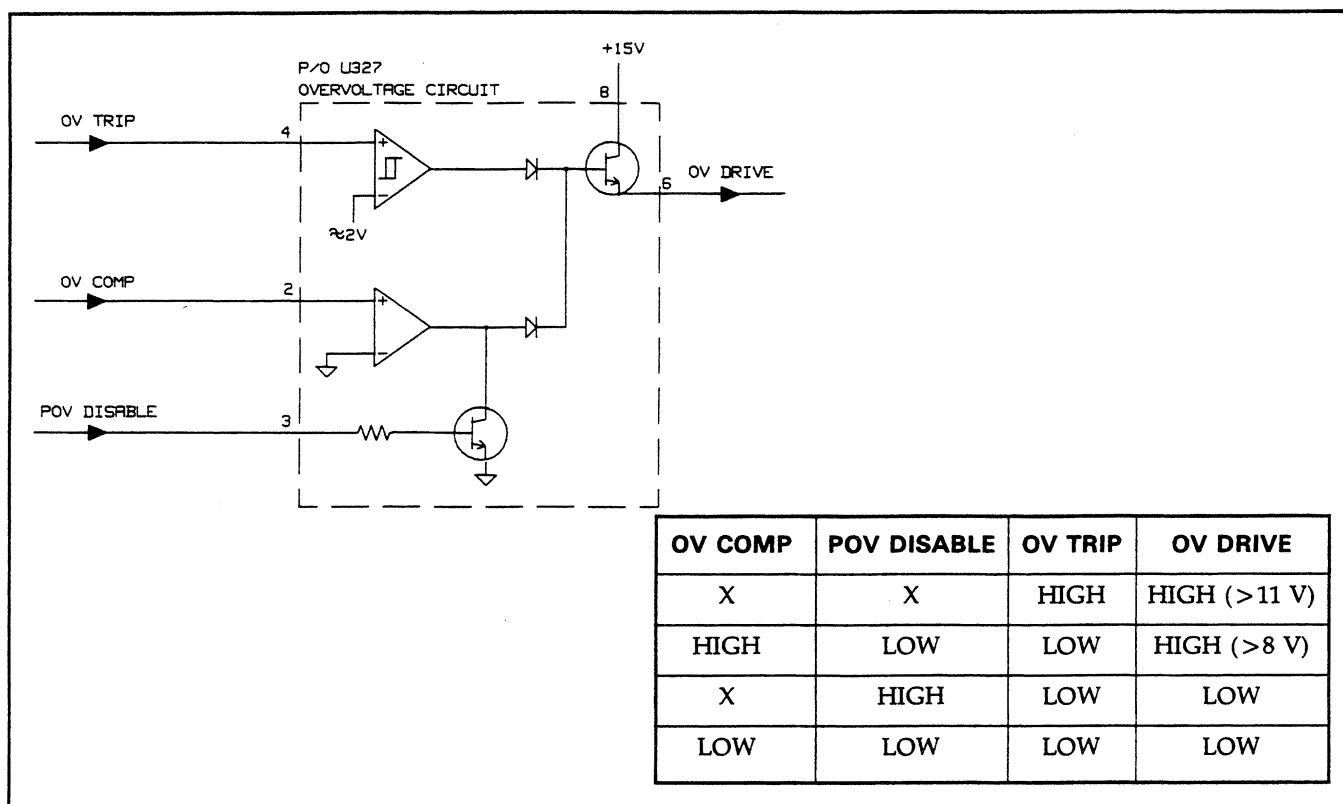
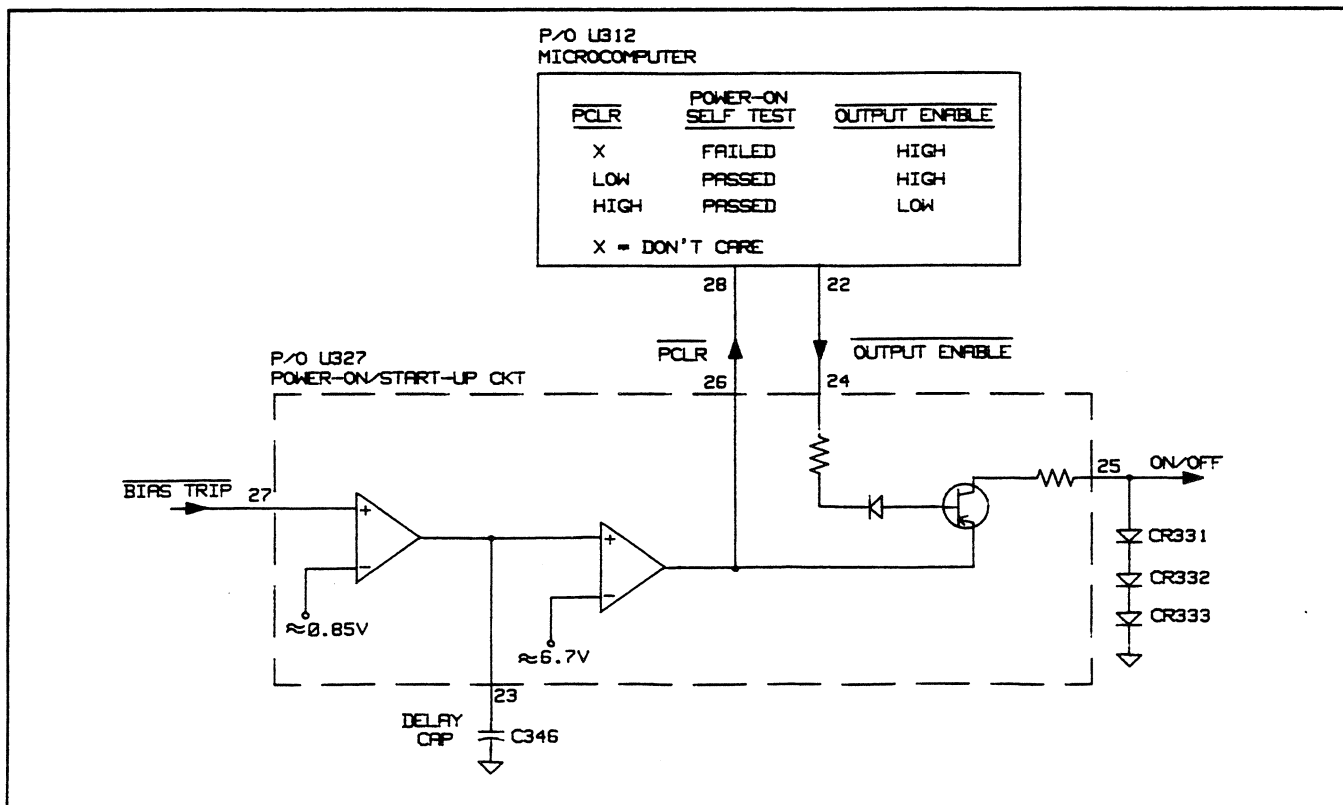

Figure 4-17. Signal Processor U327, Overvoltage Circuit, Simplified Schematic Diagram
Figure 4-18. Signal Processor U327, Power-On/Start-Up Circuit, Simplified Schematic Diagram
Proper operation of the IC can be verified by measuring the pin voltages and using Table 4-16 which lists the voltage levels and defines the low and high states. This information is used in conjunction with the pin descriptions (paragraph 4-31) and simplified schematics to troubleshoot the signal processor's overvoltage (Figure 4-17), power-on/start-up (Figure 4-18), and status monitor circuits (Figure 4-19). Additional troubleshooting information for the status monitor circuit is given in paragraph 4-32 and Figure 4-20.
**OV DRIVE (pin 6):** This output signal is a function of inputs: OV COMP, POV DISABLE, and OV TRIP. When OV DRIVE goes High, it fires the SCR in the power module. The OV DRIVE pin voltage will be > 8 V when tripped from OV COMP and > 11 V when tripped from OV TRIP (see Figure 4-17).
**DELAY CAP (pin 23):** When BIAS TRIP (pin 27) is High, this signal causes a slow charge of an external delay capacitor toward the DELAY CAP High level which, when reached, causes PCLR (pin 26) to go High. When BIAS TRIP is Low, this signal causes a quick discharge of the external delay capacitor (see Figure 4-18).
**ON/OFF (pin 25):** This output pin goes High when PCLR (pin 26) is High and OUTPUT ENABLE (pin 24) is Low (see Figure 4-18). When High, the ON/OFF line enables the control circuits and current sources of the output board which allows power to reach the output terminals.
**PCLR (pin 26):** This output goes High when DELAY CAP (pin 23) goes High (see Figure 4-18). When PCLR is High and OUTPUT ENABLE (pin 24) is Low, ON/OFF (pin 25) goes High.